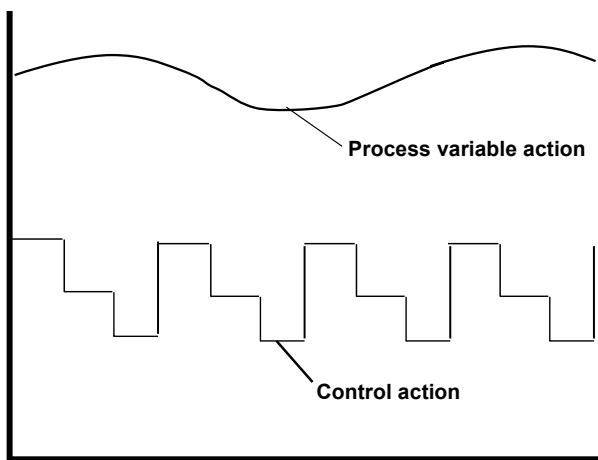

Figure 7.16: Multistep Control Profile
*Multistep controllers* are controllers that have at least one other possible position in addition to on and off. Multistep controllers operate similarly to discrete controllers, but as setpoint is approached, the multistep controller takes intermediate steps. Therefore, the oscillation around setpoint can be less dramatic when multistep controllers are employed than when discrete controllers are used (Figure 7.16).